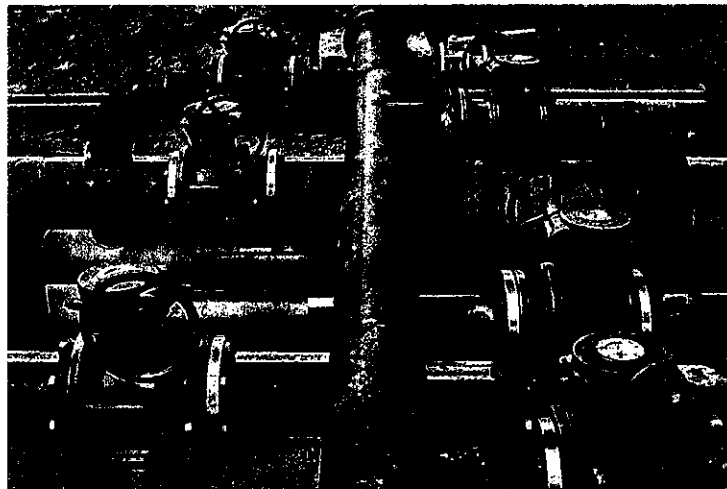

Figure 4(b)/ Rajah 4(b)
- (b) Figure 4(b) shows the corrosion occurring which damaging the pipeline in the industry.
- i. Elaborate **ONE (1)** type of corrosion that can occur in Figure 4 (b).